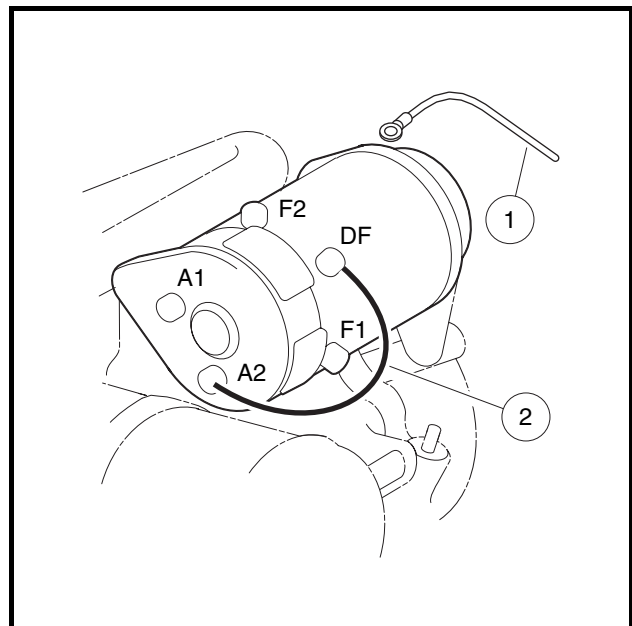

Figure 12-14 Jumper Wire Ground – DF to A2
3. Disconnect the yellow wire from the DF terminal on the starter/generator. Cover the connector on the yellow wire to make sure the yellow wire will not short to ground. Then, using a jumper wire, ground the DF terminal to the A2 terminal (**Figure 12-14, Page 12-17**).